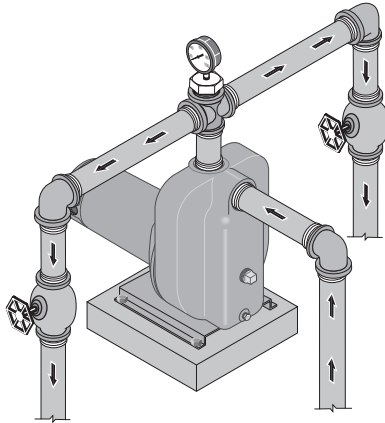

FIGURE 3 - MULTIPLE DISCHARGE
This pump is designed for a pond, cistern or well points. Pump discharge can be divided to supply two (2) or more sprinkler systems. A suggested multiple discharge to service is shown in Figure 3.